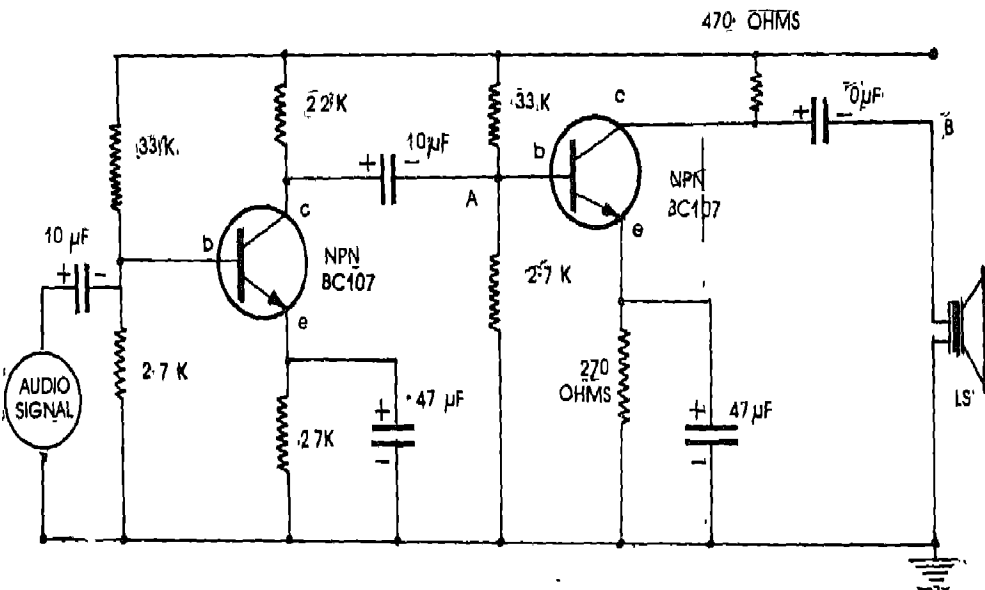

Fig. 12.1
1. Make the circuit as shown in Fig. 12.1.